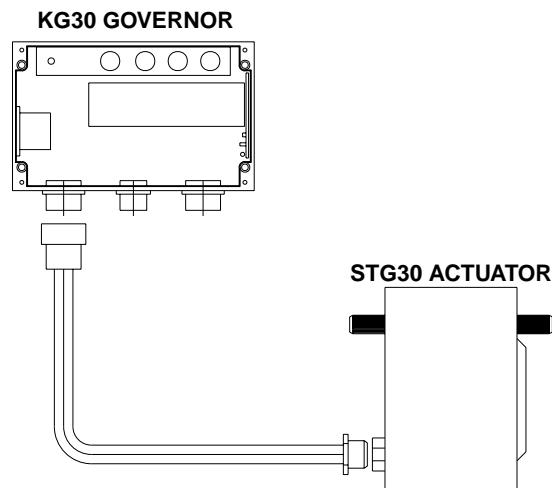

Figure 6
- Multiple engines driving a common controllable pitch propeller requiring precise load sharing between engines operated under different conditions. See Figure 6 in the *Drawings* section of this guide.
- Single main engines driving a controllable pitch propeller and a number of different power takeoffs (PTOs). See Figure 6 in the *Other Applications* section of this guide. The PTOs could consist of ship service generators, pumps, and/or compressors.
- Heinzmann E30 electronic governor system (Figure 6)